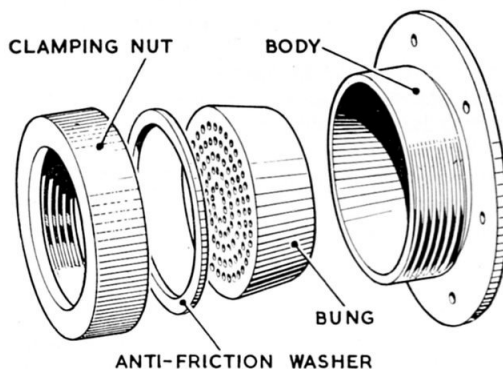

Fig. 1. Exploded view of Helvin pressure bung
2. The pressure bung (*fig. 1*) consists of a bung made of plasticised P.V.C., and a housing for holding the bung. The bung has a tapered external diameter which fits in the tapered bore of the housing. Holes in the